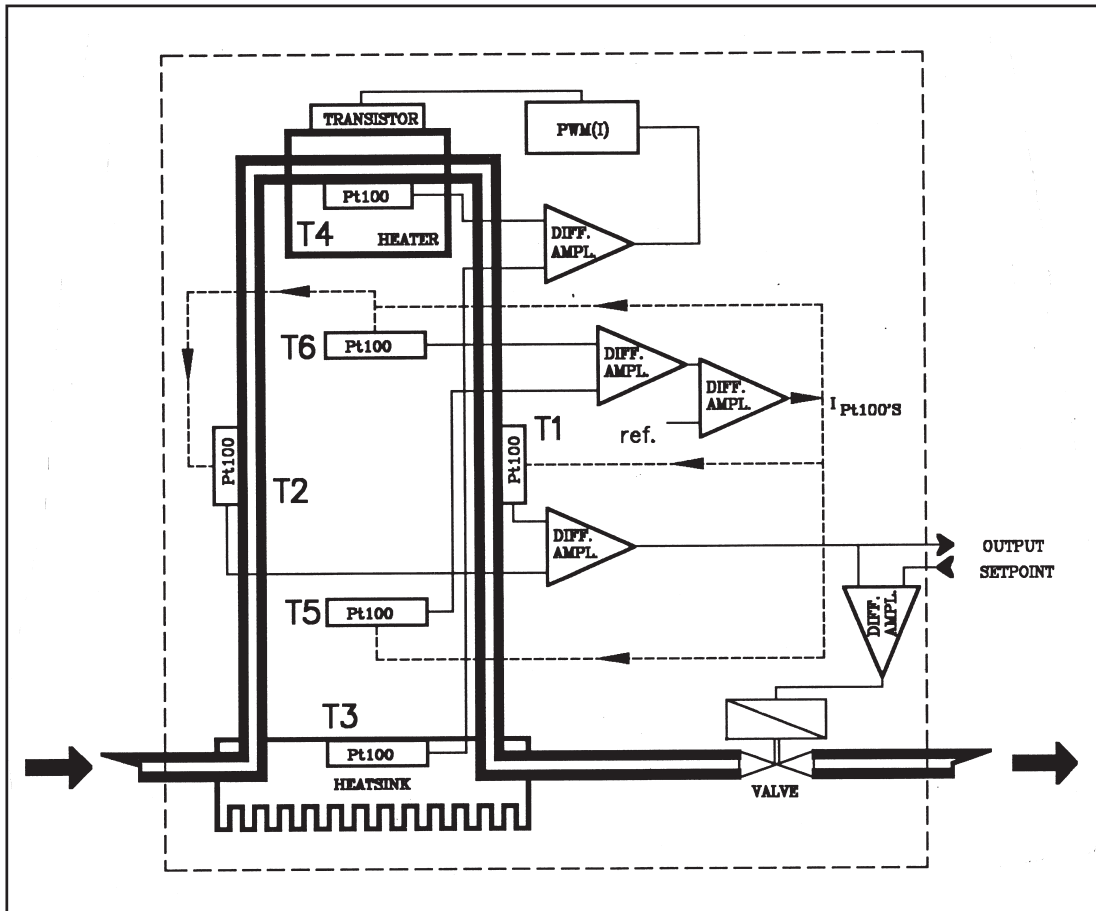

Figure 3-3 Principle Mass Flow Controller
**Electronics (see figure 3-3)**